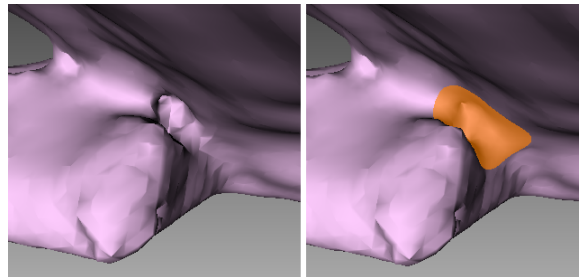

Figure 98: Before smoothing (left) and smoothing out a poorly captured area (right).
6. Hold **LMB** and paint the surface region in order to smooth it. The tool will smooth the affected areas (see Figure 98, right).